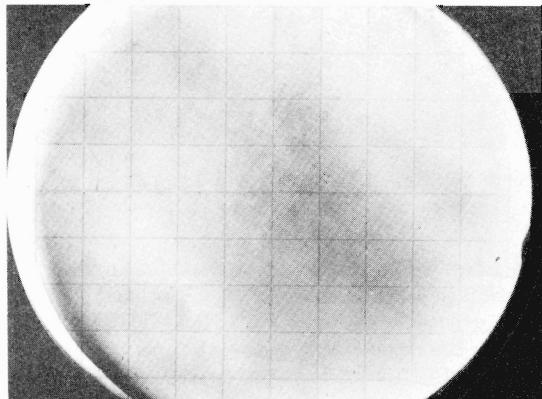
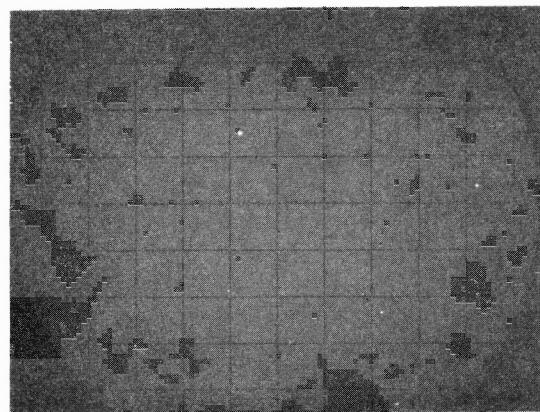

Figure 3-3. Background illumination occurs when erasing with WRITING RATE in MAX
Figure 3-10. Small bright spots caused by minute imperfections in storage mesh
- i. BACKGROUND ILLUMINATION - A green cloud of illumination visible on the CRT screen. (Figure 3-3.)
n. Figures 3-3 through 3-10 are provided to show typical CRT displays with various control settings and input signals. They are examples which, if duplicated by the operator, will aid in understanding the operation of the Model 141S. Figure 3-10 shows small bright spots on the CRT screen which are caused by minute imperfections in the storage mesh.